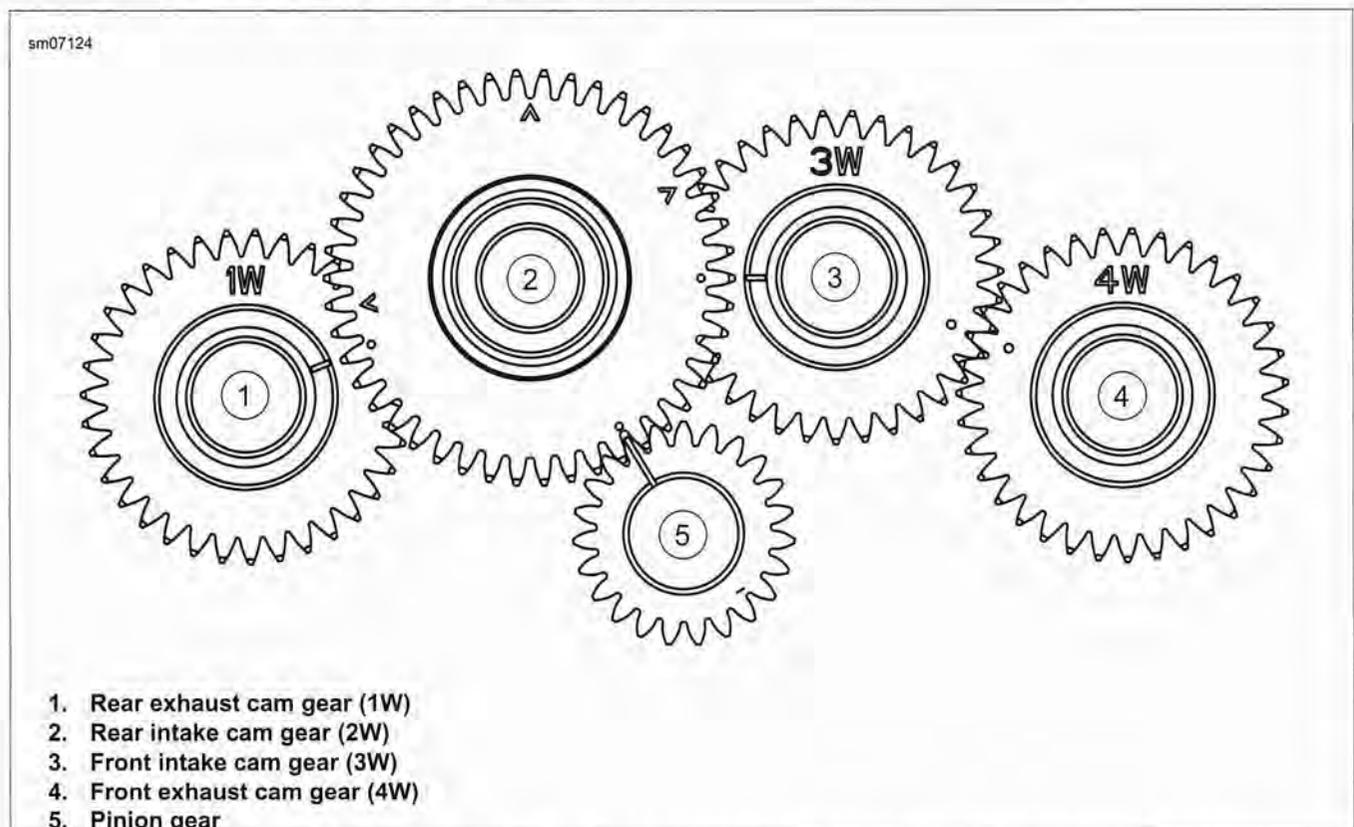

Figure 3-159. Cam, Pinion Gear and Timing Mark Indexing (cam #2 "V" marks are not used for timing)
See Figure 3-159. Because of the larger diameter additional gear (which meshes with the pinion gear) on the outboard end of the rear intake cam gear, the rear exhaust and front intake cam gears must both be installed before the rear intake cam gear is installed.
- See Figure 3-159. Rotate crankshaft until timing mark on pinion gear points exactly at centerline of rear intake cam bushing.
See Figure 3-159. "V" marks on rear intake cam are not used for timing of Sportster model engines.
See Figure 3-159. Make sure all timing marks on cams just installed line up correctly. If necessary, remove a cam, rotate it slightly, and install. If timing marks are off even one tooth, engine will not run correctly.